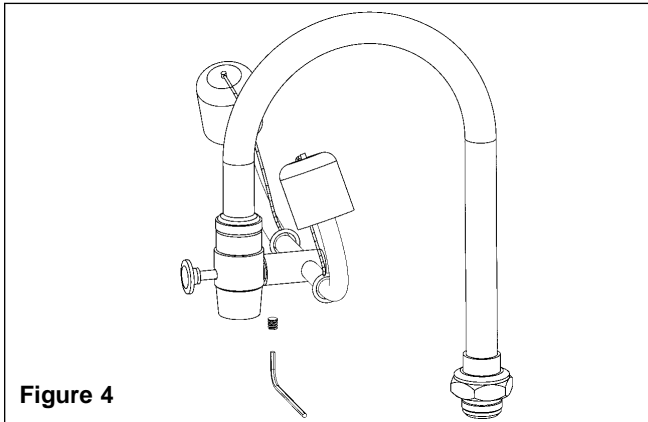

Figure 4
2. Attach Eyewash Yoke Assembly to connection on Eyewash adapter (see Figure 4). Be sure that Eyewash Spray Heads are facing toward the user's eyes.